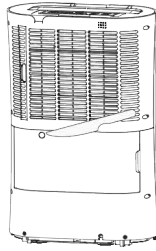

Fig. 4
3. Remove the drain cover (10) from the door (8) (Fig. 4). Removing the water tank (9) in advance will provide better access.